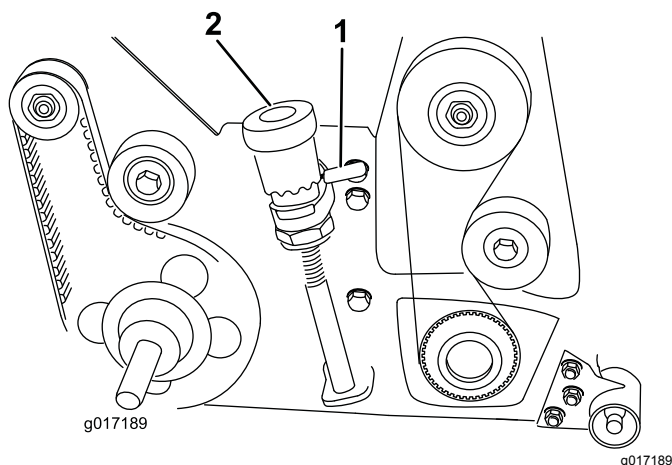

Figure 25
2. Use the quick-up levers (both sides) to lower the grooming reel into the grooming position (Figure 25).
4. Lift and turn the micro adjustment knob (Figure 25) to raise or lower blade tip.
When transporting machine be sure to raise the grooming reel into its transport (raised) position. To raise the grooming reel, rotate the right and left quick-up levers so they face to the rear (Figure 25). To lower the grooming reel, turn the quick-up levers forward.